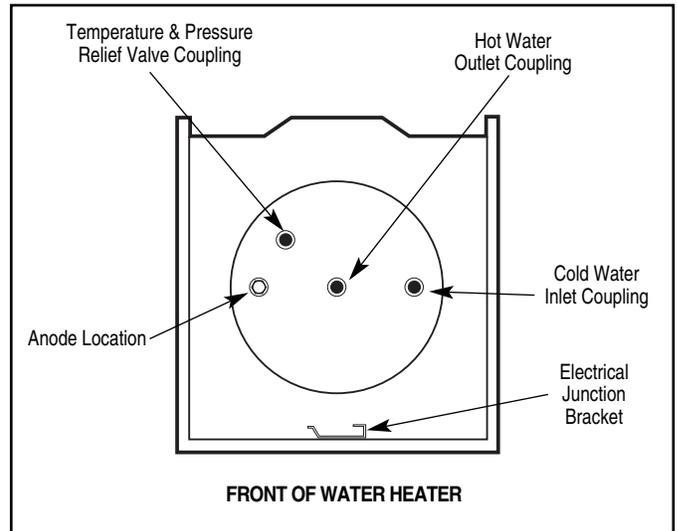

Figure 3. — Location of water connections on water heater tank. (Pictured with top insulation pad removed)
6. ELECTRICAL CONNECTIONS — A separate branch circuit with copper conductors, overcurrent protective device and suitable disconnecting means must be provided by a qualified electrician. All wiring must conform to local codes or latest edition of the National Electrical Code ANSI/NFPA 70. The water heater is completely wired to the junction box inside jacket at top front of water heater. An opening for $\frac{1}{2}$ " or $\frac{3}{4}$ " electrical fitting is provided for field wiring connections. (Refer to Fig. 3)
sheathed cable not approved for use as a ground conductor shall include a separate conductor for grounding. It should be attached to the ground terminals of the water heater and the electrical distribution box. (Refer to Fig. 3)